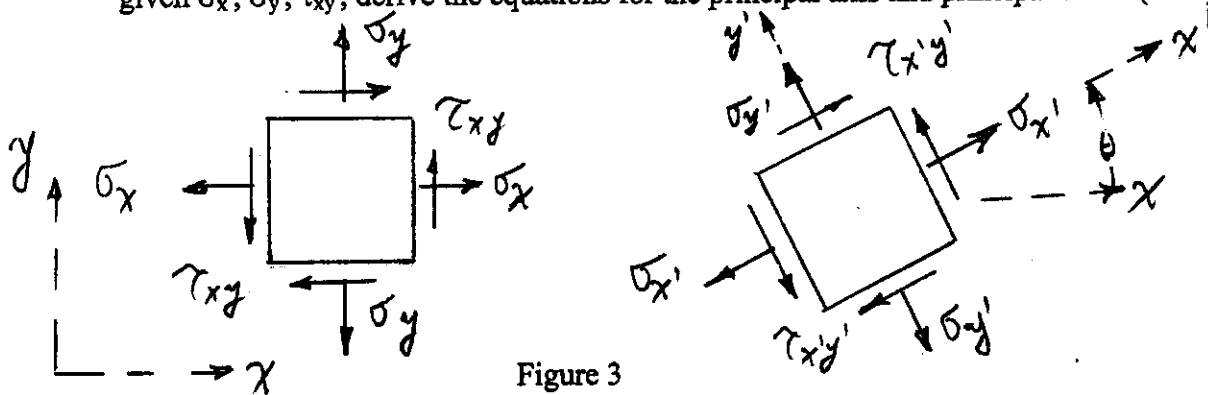

Figure 3
4. a. Derive the plane-stress transformation equations. Write the $\sigma_{x'}$, $\sigma_{y'}$, $\tau_{x'y'}$, in terms of σ_x , σ_y , τ_{xy} and θ (figure 3)(10%) b. What are the principal axis and principal stress? For given σ_x , σ_y , τ_{xy} , derive the equations for the principal axis and principal stress.(10%)